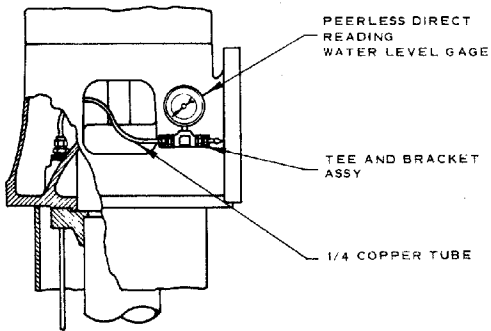
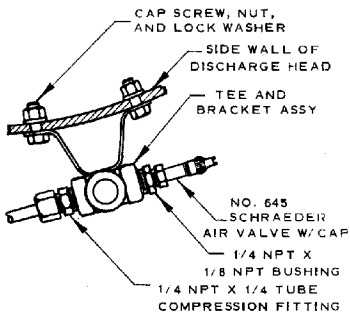

Fig. 18-1. Gage Installation - 6x6x12 Or Larger Discharge Head.
Fig. 18-2. Detail Of Tee And Bracket Assembly Attachment To Discharge Head Wall.
B. Assemble the water level gage and the air valve on the tee and bracket assembly. Attach the bracket to the side of the discharge head, using the cap screws, nuts and lock washers provided. (See Fig. 18-1 or Fig. 18-2.)
C. The connection from the air line to the gage is made with the short length of 1/4 OD copper tubing furnished. In the case of a 6x6x12 or larger discharge head, the air line was terminated with a compression fitting at the top of the discharge head base. Attach one end of the short tube to this fitting and the other end to the tee at the gage, using another compression fitting. (See Fig. 18-2.)